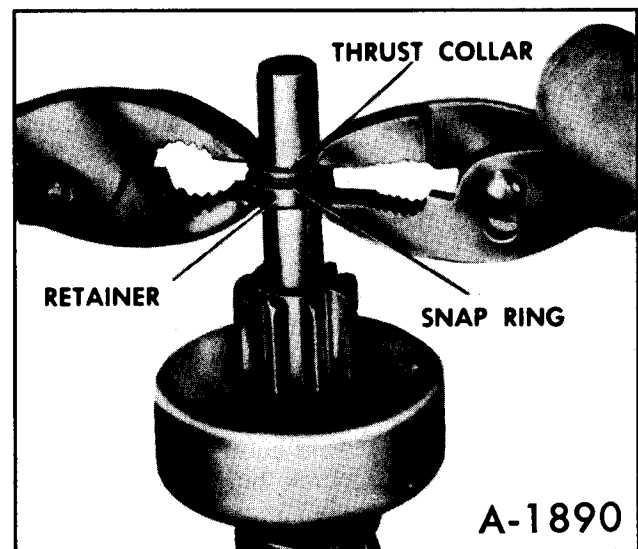

Figure 77—Installing Retainer and Snap Ring
f. Position retainer and thrust collar next to snap ring. Using two pliers, grip retainer and thrust collar and squeeze until snap ring is forced into retainer and is held securely in groove in armature shaft. (figure 77)